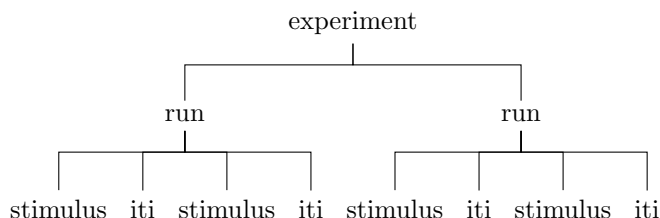
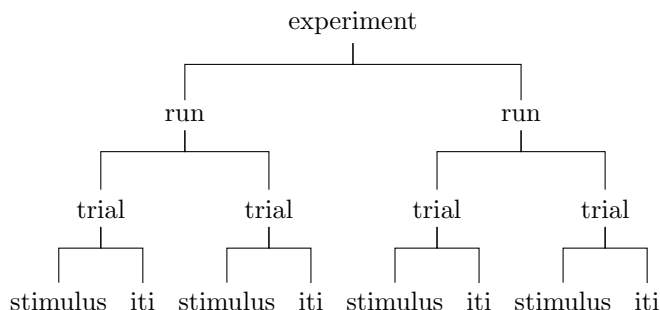

Figure 9: Run Level
Figure 10: Trial Level
fMRI experiments last more than one functional run. Researchers like to exert control over their experiments and so, to ensure that there is no unintended effect of run on the data, runs are typically counterbalanced across participants. This means that the order in which the runs are presented to participants is shuffled. In a two run experiment (with runs A and B), some participants will receive run A first whereas some participants will receive run B first. It is important to ensure that each run is not significantly different from other runs with regard to the number of trials and timing. Thus, we can think about the stimulus and ITI events as occurring *within* each run. The event structure of an experiment that considers stimuli and ITI as nested within run is depicted in Figure 9. While this ensures that each run is independent, there
are still many problems with constructing your experiment in this manner. If we randomized the order of the run event in Figure 9, we could still counterbalance runs and test to ensure that runs did not differ in timing. However, we also want to make sure that the order of stimulus presentation does not affect our results. While the above examples only have 4 stimulus events (2 per run), keep in mind that the typical experiment has many more. We want to ensure that there are no systematic effects with respect to stimulus timing. For example, we want to make sure that participants cannot predict what trial will be next or else expectancy effects could influence the results in unintended ways. If we were to randomize the stimulus and ITI events in Figure 9 we would have a problem. We have the stimulus and ITI at the same level which means that we could potentially get two (or even three!) ITI events back to back, and the same goes for the stimulus events. We want to make sure that each stimulus is followed by an ITI, but we want to be able to randomize the stimulus. Thus, we can create a hierarchy like Figure 10: Here we are able to randomize run
Since the Design Explorer assumes a minimal run hierarchy, this is the level at which we can begin implementing hierarchical designs in the program. In the program, we will begin by building the experiment outlined in Figure 9.
1. Click the **Add Event** button to add a row into the Event Definition Table (Figure 9, ①)
4. Click the **Add Configuration** button three times to add three rows into the Event Configuration table (Figure 9, ②)